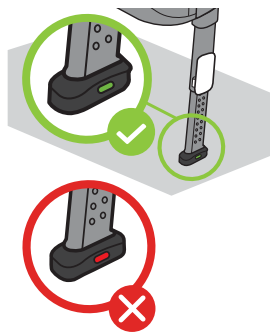

Figure 48
- Pull out and hold bottom of Load Leg Adjustment Handle (1).
- Grasp Load Leg and pull down to extend Load Leg until it touches the vehicle floor (2).
- Confirm that Load Leg Pressure Indicator has turned from red to green, as shown in **Figure 48**. If Indicator remains red after the Load Leg has been locked into position, extend Load Leg one position further to increase the contact between the vehicle floor and the Load Leg.